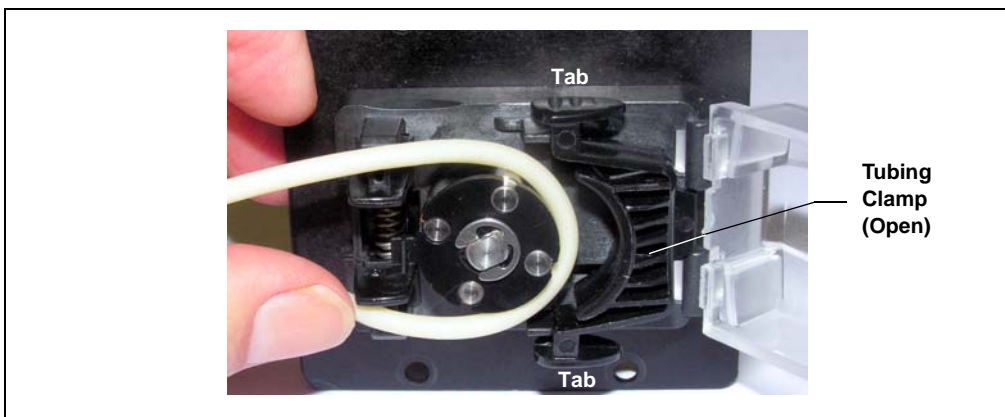

Figure E-5. Peristaltic Tubing Installation
6. Squeeze the two tabs on the top and bottom of the tubing clamp and slide the clamp to the right. This opens the clamp (see Figure E-5).
7. Wrap the tubing loosely around the pump head rollers (see Figure E-5), allowing the ends to extend approximately equally from the pump.